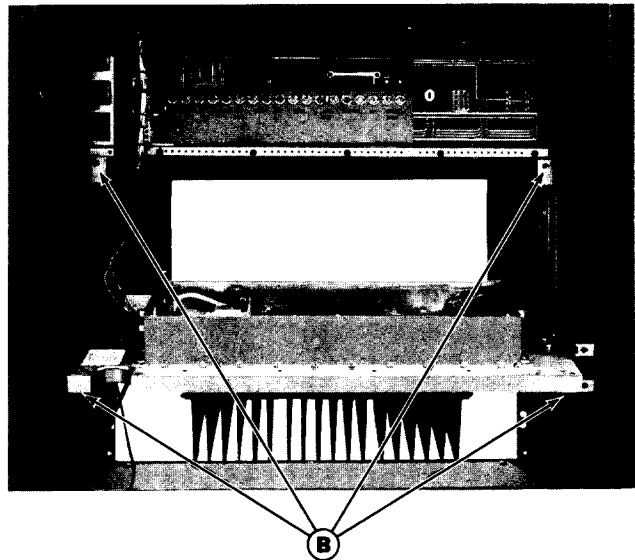

Figure 6 - Access To Power Amplifier - Rear View
1. Remove the top two screws (B) on the Intermittent or Continuous Duty Power Amplifier. Refer to Figure 6.